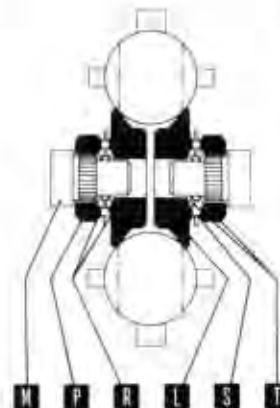

Figure 5
The pressure devices (Fig. 5) automatically ensure that the necessary pressure between the drive cones and the drive balls is maintained in proportion to the torque. A disc (P) is splined onto the drive shaft (M). The drive cone (L) is free to revolve on the shaft. Both the drive cone and splined disc have a series of 'V' shaped ramps (R) between which are inserted spherical rollers (S). Pairs of conical spring washers (T) are also fitted in recesses in the drive cones and splined discs.